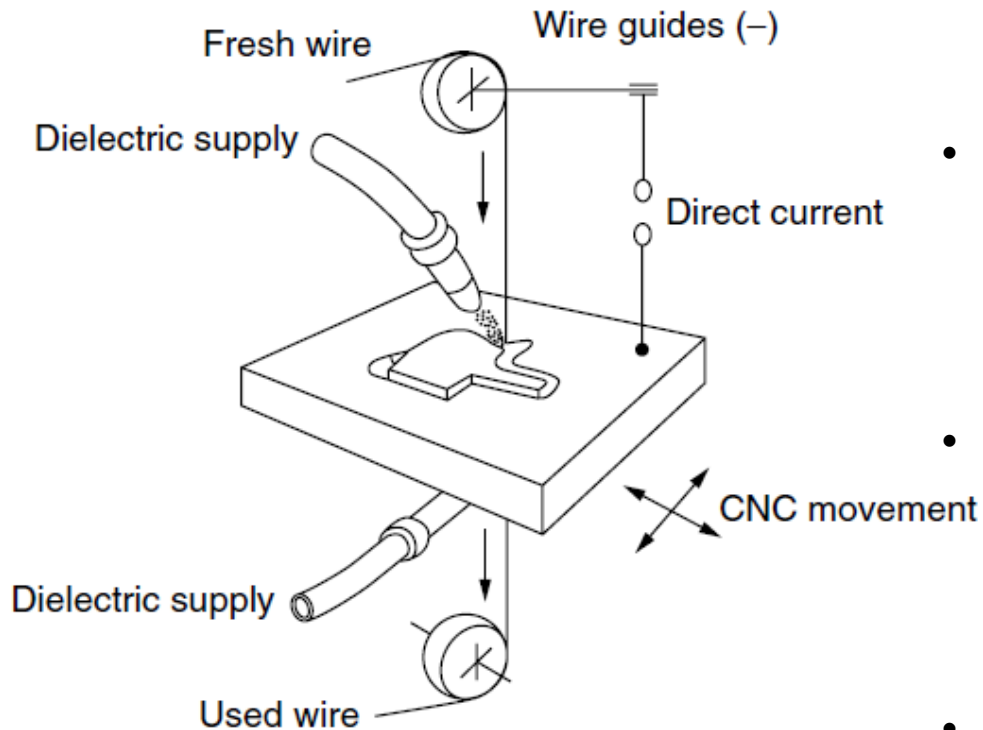

Figure 5.23 Wire EDM schematic.
- In most cases the horizontal movement of the worktable, controlled by CNC, determines the path of the cut, as illustrated in Fig. 5.23.